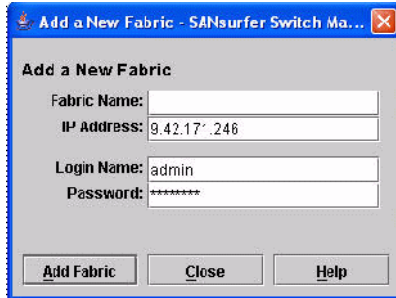

Figure 7-34 Add a New Fabric window
3. Enter the IP Address for the switch in the IP Address field (Figure 7-34 on page 197). Enter the user name and password and click **Add Fabric** to continue.